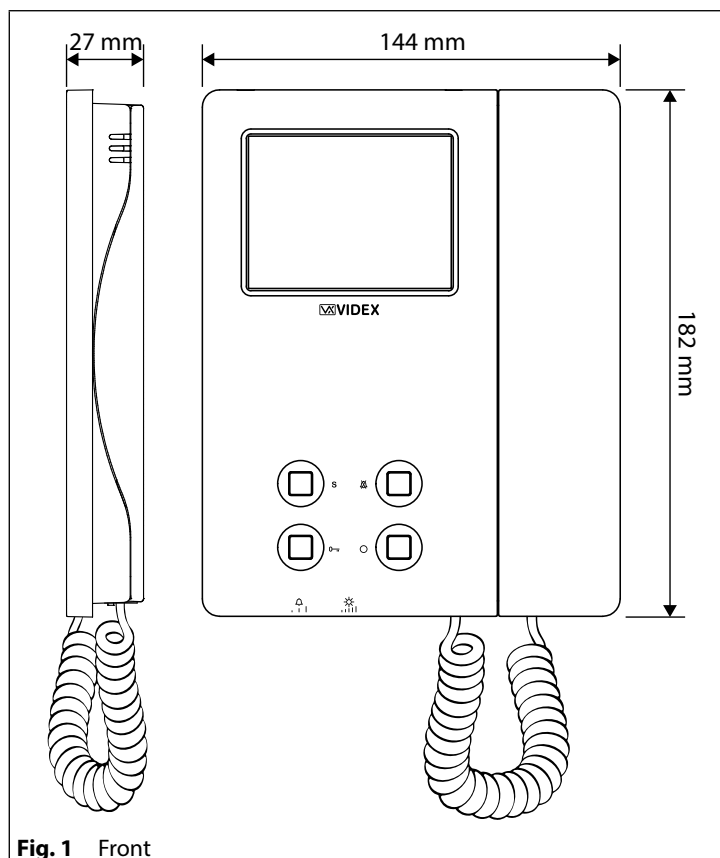
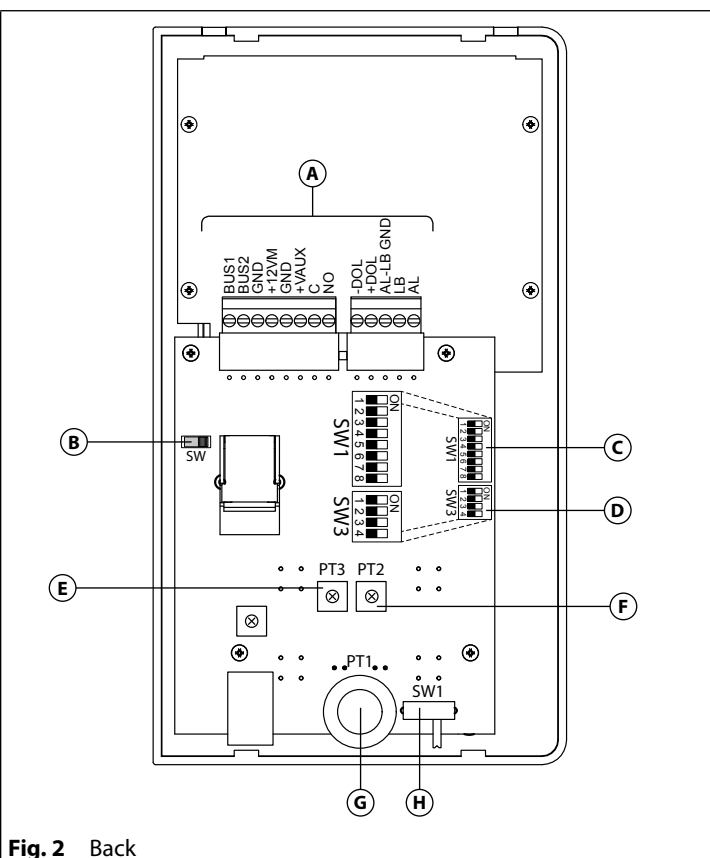

Fig. 1 Front
Fig. 2 Back
- Place the surface box against the wall (165-170cm between the top of the box and the floor level as shown in **Fig. 1**) and mark the fixing holes for the wall plugs and the hole for the cables **(E)** (**fig. 2**). Observe the orientation of the box with the hinge on the left;
- As shown on **Fig. 2**, drill the fixing holes **(A)**, insert the wall plugs **(B)** and feed the cables **(E)** through the surface box opening **(D)**, fix surface box **(C)** to the wall using the screws **(F)**;
- Protect the module support frame fixing holes from dust then embed the back box into the wall (165-170cm between the top of the box and the floor level as shown on the **Fig. 1**) feeding the cables **(E)** (**Fig. 2**) through a previously opened hole in the box. Observe the direction of the box ensuring the hinge is on the left and take care that the box profile is in line with the finished wall profile;